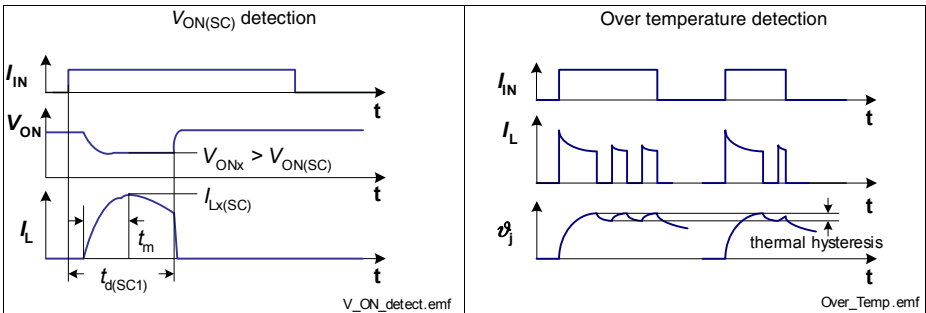

Figure 12 Overload Behavior
In the event that either the short circuit detection via  $V_{ON(SC)}$  is not activated or that the on chip temperature sensor senses over-temperature before the blanking time  $t_{d(SC1)}$  expired, the device switches off resulting from over-temperature detection. After cooling down with thermal hysteresis, the devices switches on again. Please refer to **Figure 12** for details.
2) Short circuit current limit for max. duration of  $t_{d(\text{SC}1)}$ , prior to shutdown, see also Figure 12.